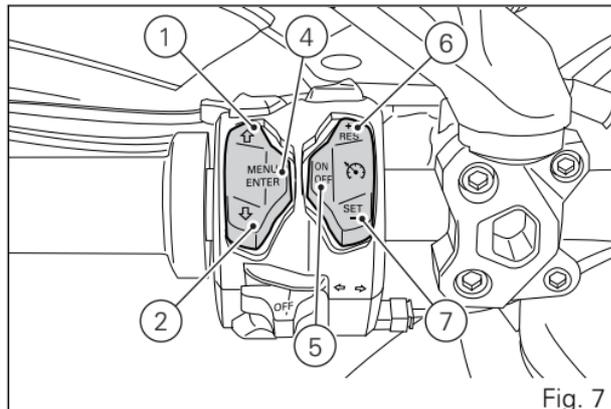

Fig. 7
6) CRUISE CONTROL BUTTON - RES (Resume) / + (more) (Fig. 7)
7) CRUISE CONTROL BUTTON - SET (Setup) / - (less) (Fig. 7)